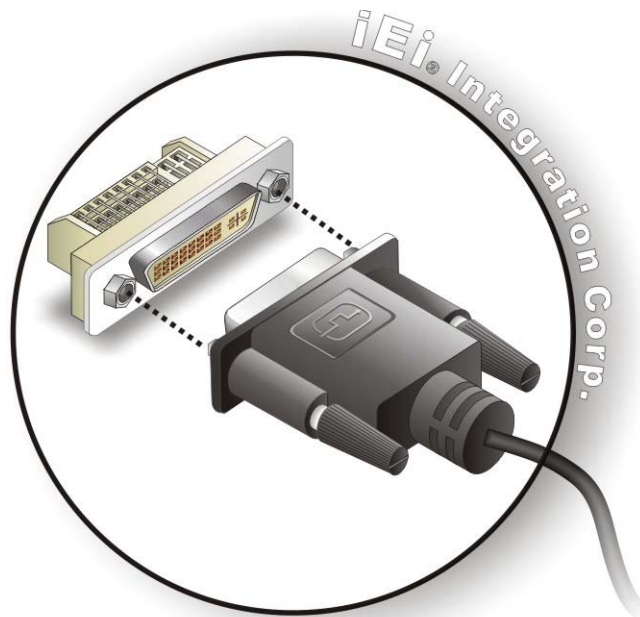

Figure 4-20: DVI Connector
- Step 3: Insert the DVI-D connector** Once the connectors are properly aligned with the male connector, insert the male connector from the digital display device into the female connector on the KINO-HM551. See Figure 4-20.